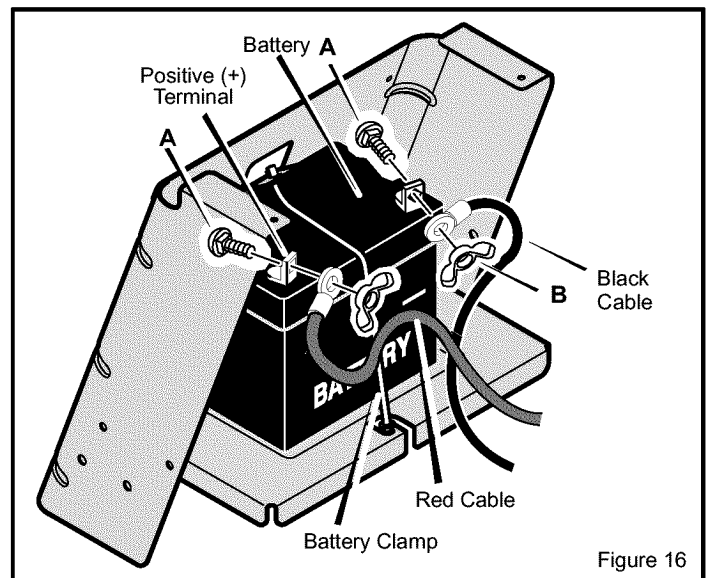

Figure 16
1. Disconnect the **black cable** from the negative (-) terminal (Figure 16).